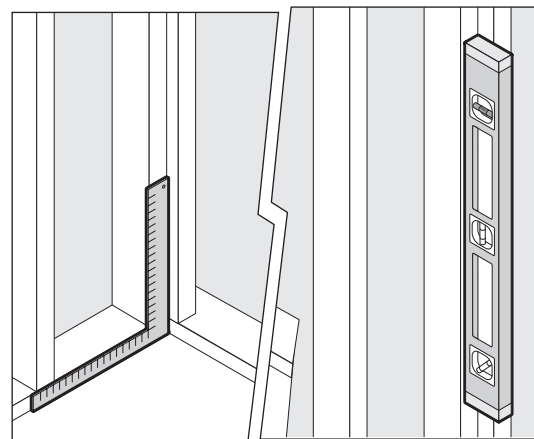

FIGURE 1. Check that studs are plumb with sub-floor/base.
- b. Stud pocket should be constructed as shown on page 1. Studs must be plumb and square to sub-floor. Sub floor must be level. (Fig. 1)